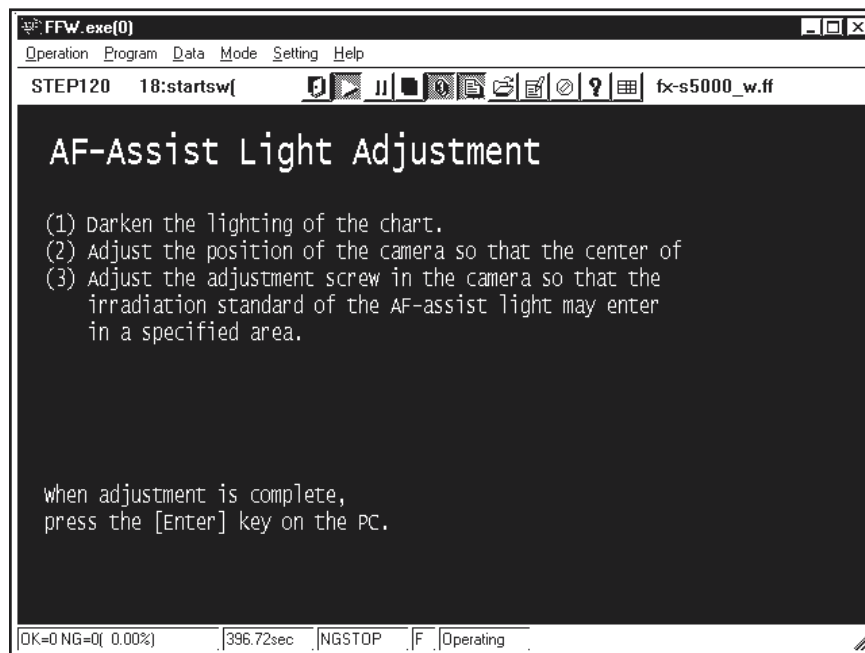

Fig.8
---> The [AF-Assist light adjustment Screen (Fig.8)] appears.